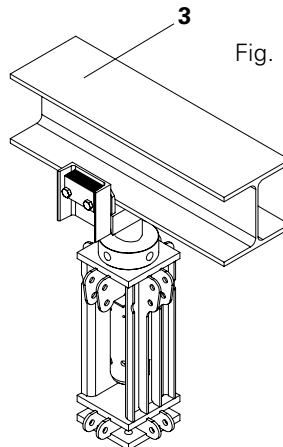

Fig. 14
- The crossbeam can now be positioned centrally on the Head Spindle VST 100. (Fig. 14)